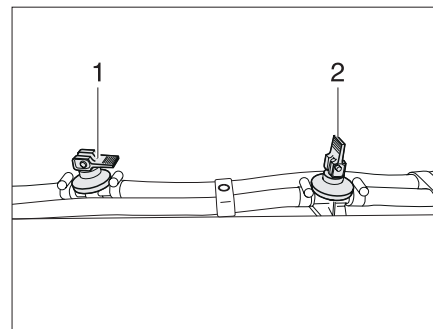

Fig. 181 Drain cock
- ▶ Close all drain cocks. Position the rocking lever (Fig. 181,1) horizontally.